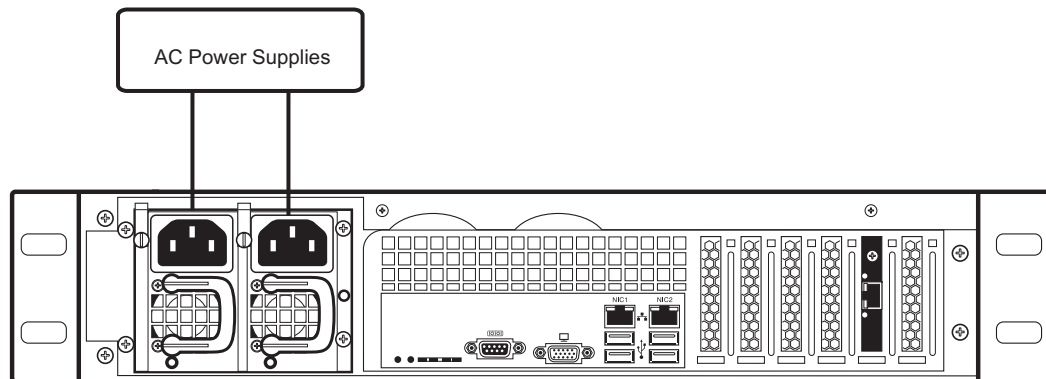

Figure 2.20 TMP800-CTRL AC Power Connections
1. Connect the first power connector of the TMP800-CTRL to the first power source. See Figure 2.20.